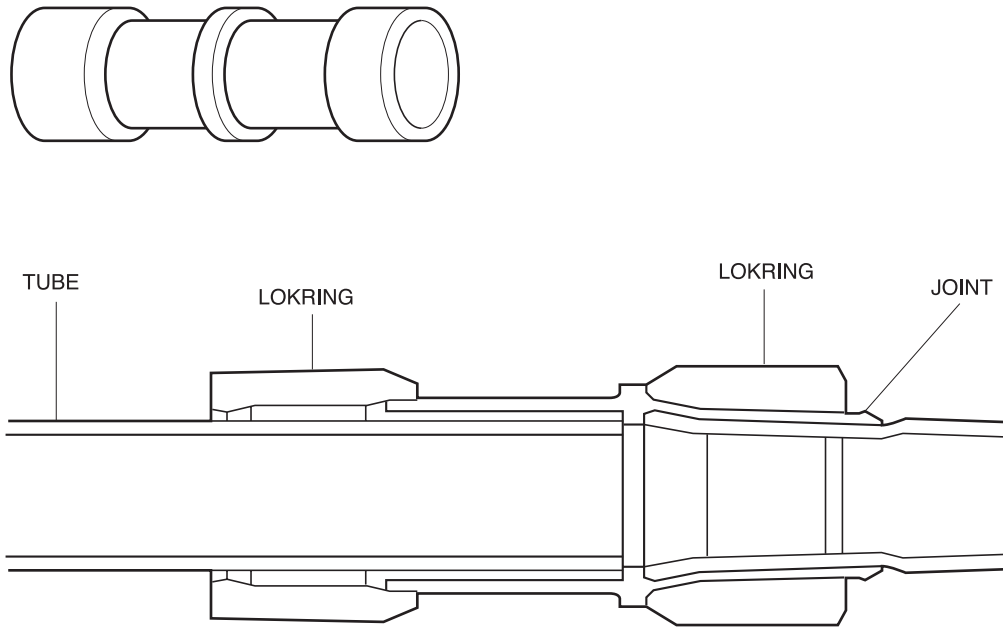

Figure 23. LOKRING
| 3 | LOKRING (Figure 23, 24) | (1)Both of the tube is inserted up to the stop. (2)Both of the LOKRING is pushed up to the stop (3)The bending point is not too close to the joint ending. (4)During the assembly it is important that both ends remain completely within the joint. | <ul style="list-style-type: none"> For a hermetically sealed metal/metal connection, the tube ends have to be clean. LOKPREP is distributed all of out-surface of the tube ends. |